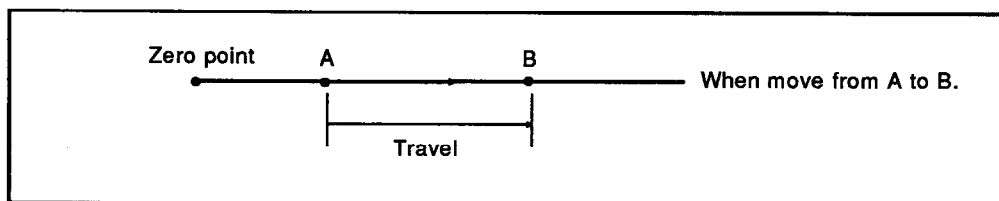

Fig. 3.6 Incremental Method
(15) Positioning methods
- In incremental mode positioning, positions are reached with reference to the previous position. (See Fig. 3.6.)